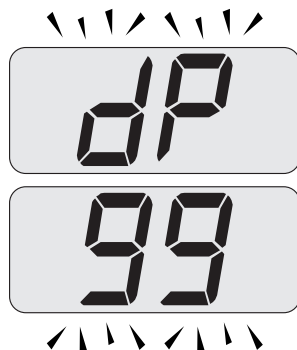

Fig. 10.23
- Press further key 18 to vary again the output in flue sweep mode: when the LCD display displays the letters **dP** that alternate with the heating water temperature value (e.g. **99**), the "flue sweep function" is at maximum output in domestic hot water mode (Fig. 10.23).